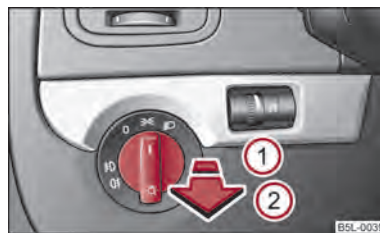

Fig. 26 Dash panel: Light switch
- First of all turn the light switch into position  or  ⇒ fig. 26.
- Pull the light switch into position ①. ▶